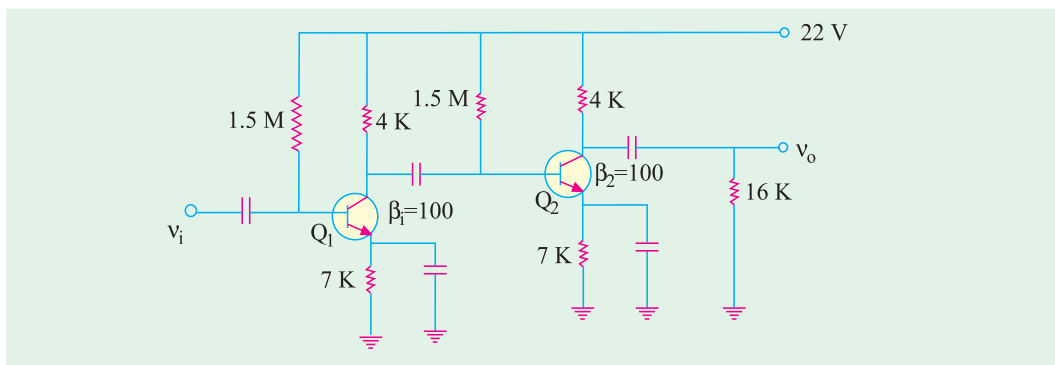

Fig. 61.44
2. For the two-stage RC -coupled amplifier using base and emitter bias and shown in Fig. 61.44, calculate approximate values of